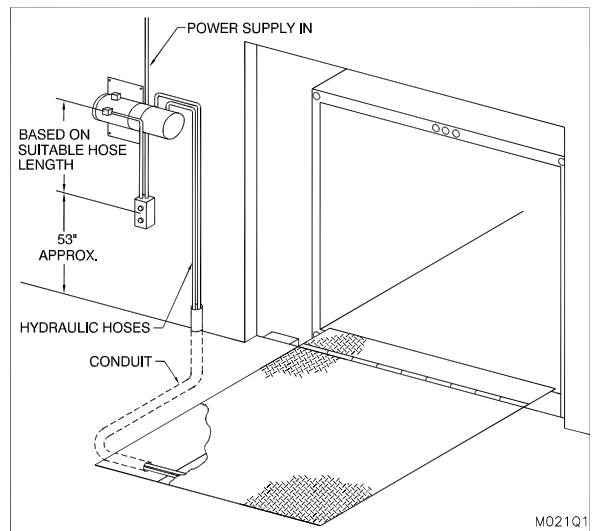

Figure 9: Power Unit and Push Button
1. ___ Mount push button and power unit on wall. ("Figure 9: Power Unit and Push Button" on page 11) Confirm the hose(s) length is sufficient to accommodate the desired routing path from the equipment to the power unit. Mount the power unit horizontally with reservoir breather facing up.